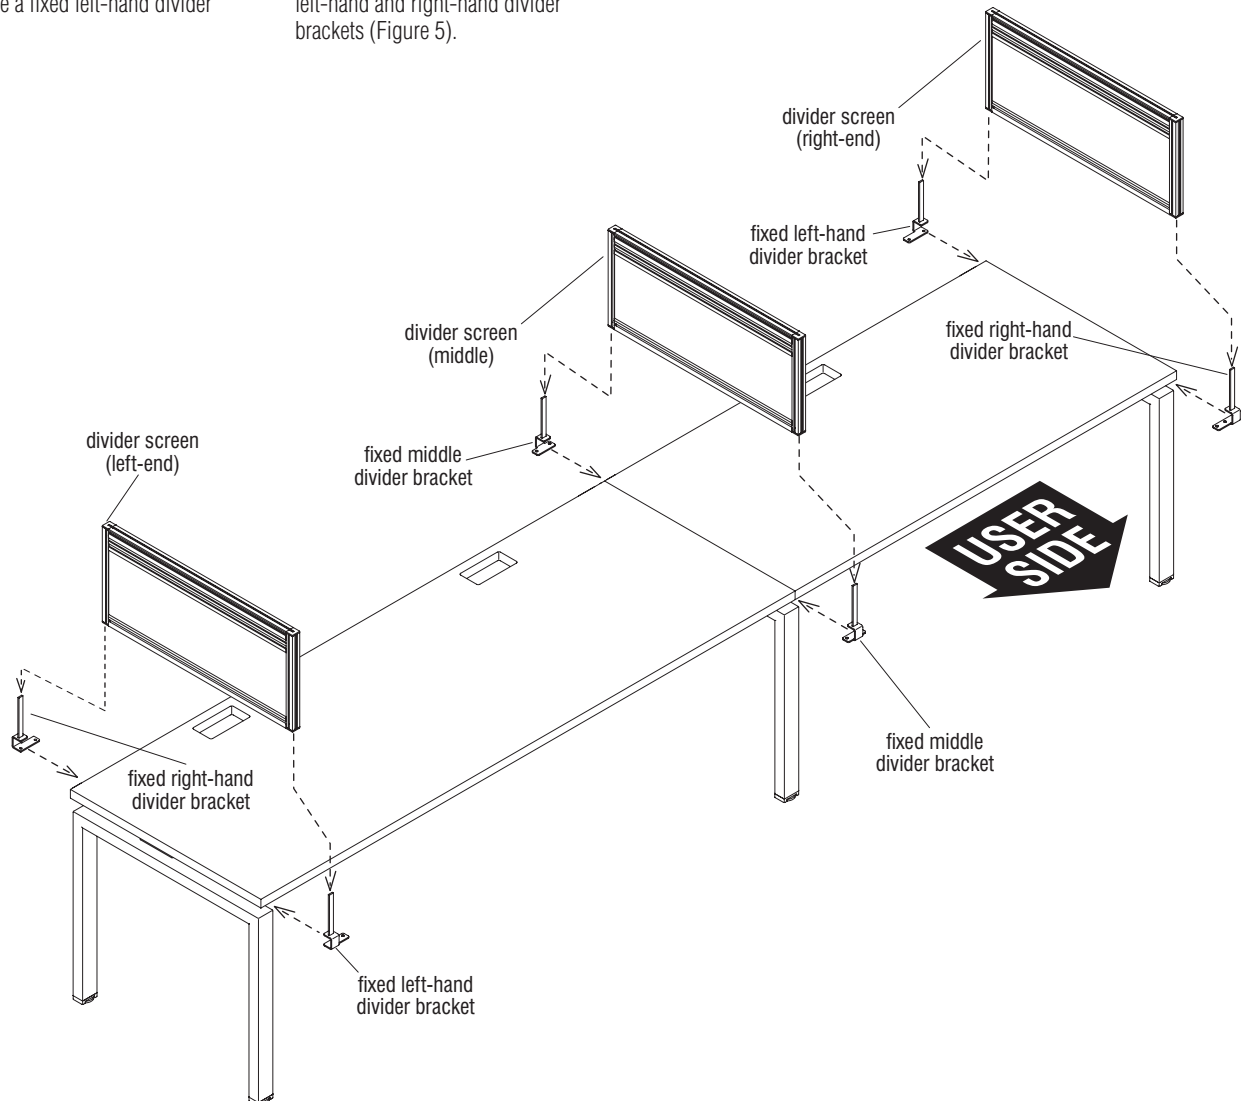

Figure 5 - Single-Sided Fixed Benching - Divider Screens without Modesty Panels Installation
1. Prepare left end divider(s) for installation. First locate and orient a "fixed left-hand divider bracket" as shown and slide it onto the front edge of the worksurface where the divider screen will install (Figure 5).
2. Next, locate and orient a fixed right-hand divider bracket and slide it onto the back edge of the worksurface as illustrated (Figure 5).
3. Position the divider screen at the end such that the front and back slides into the bayonette of the fixed left-hand and right-hand divider brackets (Figure 5).
4. Align end divider straight with the worksurface side and tighten the set screws at the underside of both fixed divider brackets. Only tighten the set screws so the tops of the set screws are flush with the bracket face. Do not over-tighten (Figure 5).
5. Repeat process following steps 1 through 4 for all middle and right-end divider screens using appropriate divider brackets as illustrated and as outlined in the note above (Figure 5).